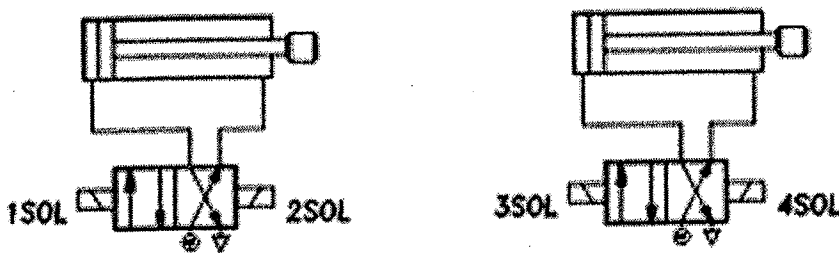

Figure 03
- Use 4/2 solenoid actuated valves to operate two cylinders as in figure 03 below.